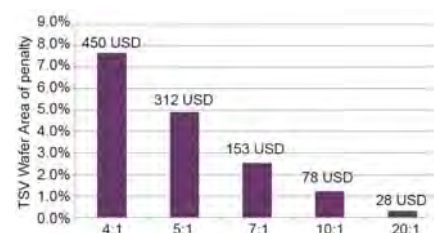

Figure 1. TSV wafer area penalty, as a function of aspect ratio, with calculated cost/wafer
Current wet processing can easily deliver 20:1 aspect ratio and higher at a significantly reduced cost. **Figure 1** demonstrates the impact of TSV aspect ratio on silicon real estate.¹ TSV aspect ratios of more than 10:1 can cut the area needed for vias to <1% of the wafer surface, and keep costs under \$100/wafer. This model assumes 10 x 10mm dice on a 300mm wafer, with 10,000 TSVs of 50nm depth and total wafer cost of \$6,359.
an initial study on the benefit of high-conductivity underfill, a flip-chip Silicon-on-Sapphire (SoS) device was chosen. SoS is a member of the silicon-on-insulator family of CMOS technologies, and due to sapphire's intrinsic radiation resistance shows distinct benefits in aerospace and satellite applications. To simulate the thermal performance of the SoS flip-chip, a Finite-Element (FE) model was constructed. The configuration is that of a 2 X 2mm die mounted directly to a 25 X 25mm PWB in the chip-on-board style. The die has twenty eutectic tin-lead solder bumps spaced equally around its periphery on a 333 μ m pitch. Void-free underfill is used to bridge the 55 μ m gap between the die face and the PWB. No heat sink or heat spreading feature is present. The meshed FE model is shown in **Figure 1**.
Figure 1. FE model of a chip-on-board configuration. The IC is shown in gray, the underfill in yellow, and the PWB in green. The full extent of the PWB is not shown and the flip-chip solder joints are hidden from view. Quarter-symmetry is assumed to reduce the size of the model